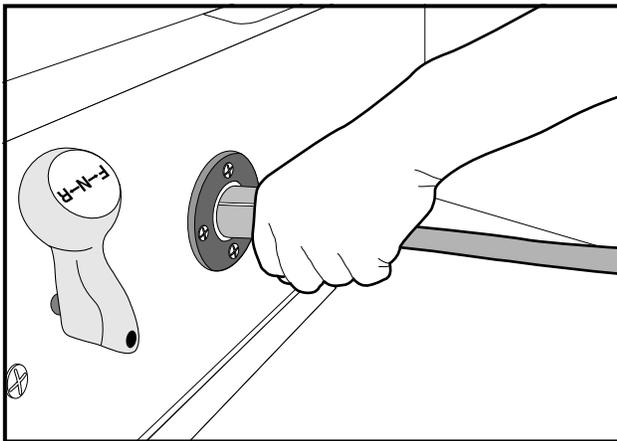

FIGURE 24
- DO NOT ROCK OR BEND THE PLUG. TO CONNECT THE CHARGER PLUG TO THE VEHICLE RECEPTACLE, GRASP THE PLUG HANDLE AND PUSH THE PLUG STRAIGHT INTO THE RECEPTACLE (**SEE FIGURE 24, PAGE 34**).
Insert the charger DC plug into the vehicle receptacle. The charger will turn on two to ten seconds later (**Figure 24**).